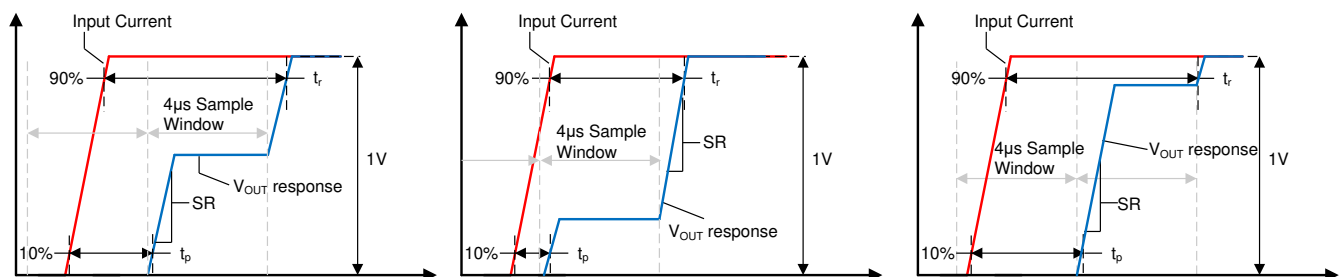

图 8-3. Small Current Input Step Transient Response
Slew rate (SR) is defined as the V_{OUT} rate of change for a single integration step's output transition, as shown in 图 8-3. Because the device often requires two sampling windows to reach a full 90% settling of its final value, this slew rate is not equal to the 10%-90% transition time for the full output swing.
Propagation delay is the time period between the input current waveform reaching 10% of its final value and V_{OUT} reaching 10% of its final value. This propagation delay is heavily dependent upon the alignment of the input current step and the sampling period of the TMCS1108-Q1, as shown for several different sampling window cases in 图 8-3.
Response time is the time period between the input current reaching 90% of its final value and the output reaching 90% of its final value, for an input current step sufficient to cause a 1-V transition on the output. 图 8-3 shows the response time of the TMCS1108-Q1 under three different time cases. Unless a step input occurs directly during the beginning of one sampling window the response time will include two sampling intervals.